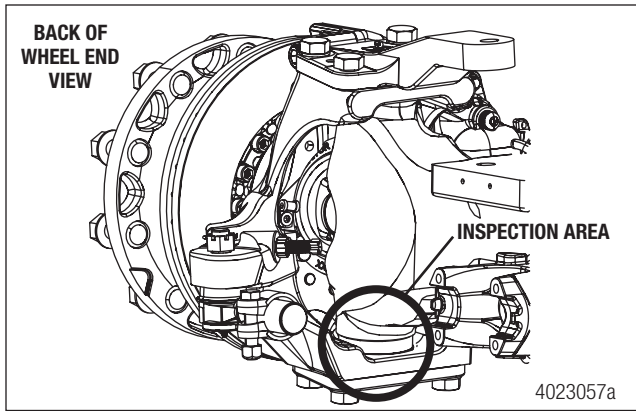

Figure 1
2. Turn the front wheels to access the backside of the driver side wheel end for inspection. Figure 1.